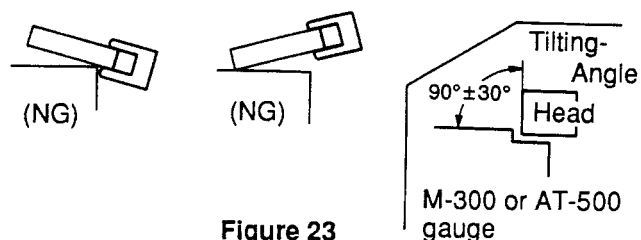

Figure 23
- (4) Adjust the height of the head as shown in Figures 23, 24 and 25.
- ① Place the height adjustment gauge (M-300 or AT-500) on the head base, and adjust the height so that the check bar fits in the tape head guide smoothly.
- ② When the check bar touches the top (or bottom) of the tape guide, insert a spacer (t 0.1 mm or polislider washer t 0.13 mm). If necessary, remove the spacer.